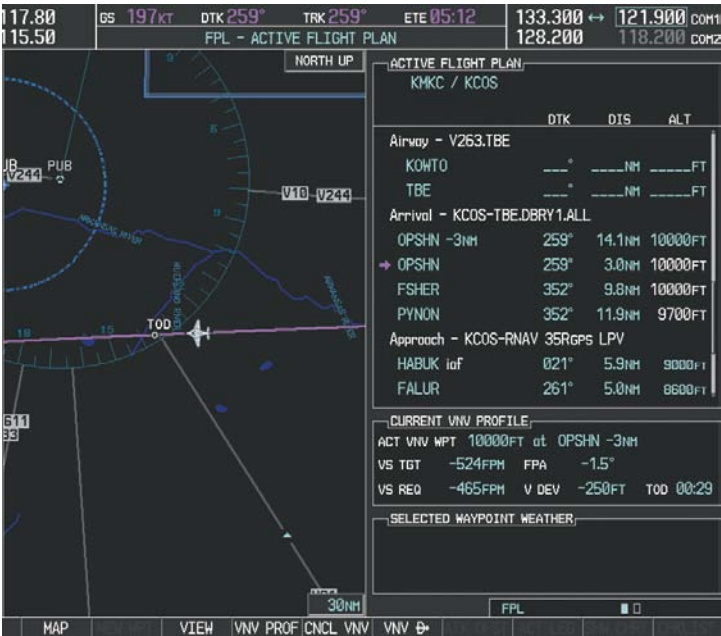
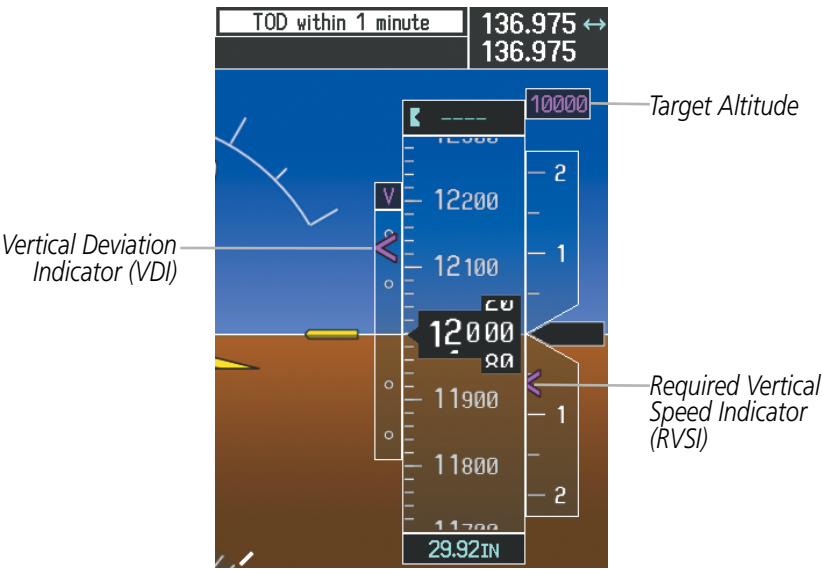

Figure 5-131 Approaching Top of Descent (TOD)
Figure 5-132 VDI & RVSI Upon Reaching Top of Descent (TOD)
15) As seen in Figure 5-131, the aircraft is approaching TOD. Note the target vertical speed required to reach the selected altitude. The Vertical Deviation Indicator (VDI) and the Required Vertical Speed Indicator (RVSI) are now displayed on the PFD as shown in Figure 5-132. When the aircraft is within one minute of the TOD, it is annunciated as shown in Figure 5-132, and an aural alert 'Vertical track' will be heard.